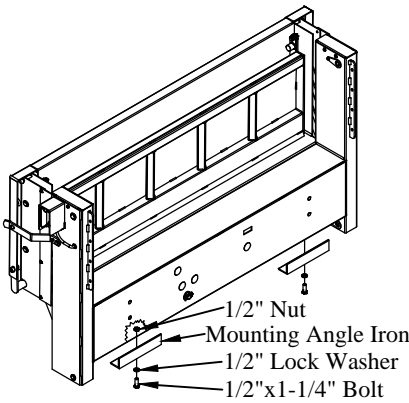

Figure 15: Mounting angle iron location.
1. **Install** the two (2) mounting angle irons to the bottom of the liftgate (Figure 15).